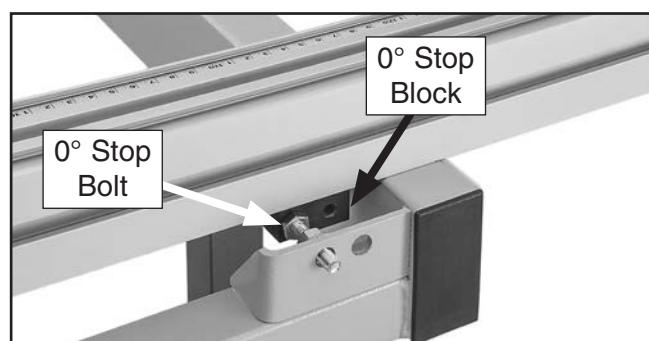

Figure 102. Stop block against 0° stop bolt.
1. Position crosscut fence on crosscut table according to cutting operation (see **Setting Up Crosscut Fence on Page 49**) and rotate it until 0° stop block touches 0° stop bolt (see **Figure 102**).